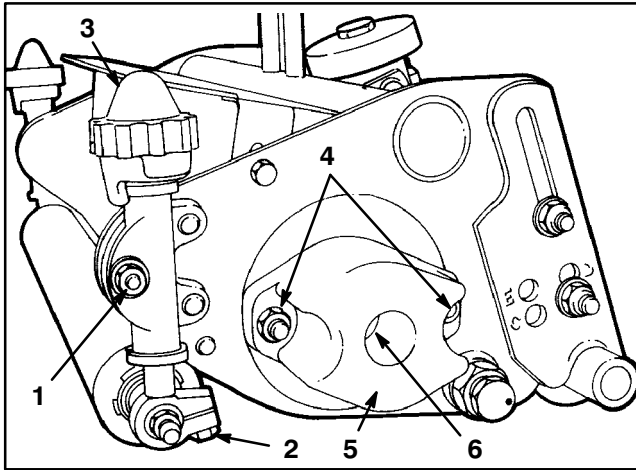

Figure 17
1. Loosen the locknuts securing the height of cut adjusting rods at both ends of the cutting unit and the roller shaft clamp bolts (Fig. 17).
2. Turn the height of cut adjustment knobs until they are disconnected from the height of cut adjusting rods (Fig. 17). The knobs are captivated on the upper washer face of height of cut clamp.
2. The reel bearing drag should be from 5 to 9 inch pounds. This can be measured with a torque wrench (Fig. 17).
1. Remove the mounting nuts from the counterbalance end cap and remove end cap from the mounting studs (Fig. 17).
3. With the wrench mounted, hold the reel and tighten the large reel bearing adjustment nut (Fig. 17). Tighten until the drag on the reel meets 5 to 9 inch–pound specification.
1. Remove counterbalance End Cap (Fig. 17).
2. Remove the large bearing adjustment nut from one end of the reel shaft (Fig. 17) and the special spline nut at the opposite end of the reel shaft.